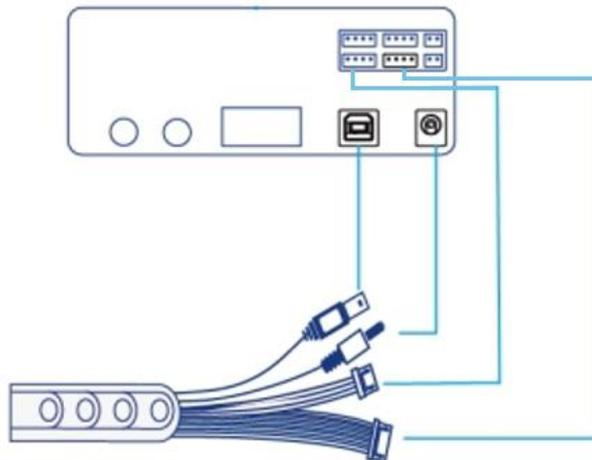

Figure 5.34 Connect to Dobot Magician
Step 4 Connect the interfaces on the end of the wire set to Dobot Magician, as shown in Figure 5.34.